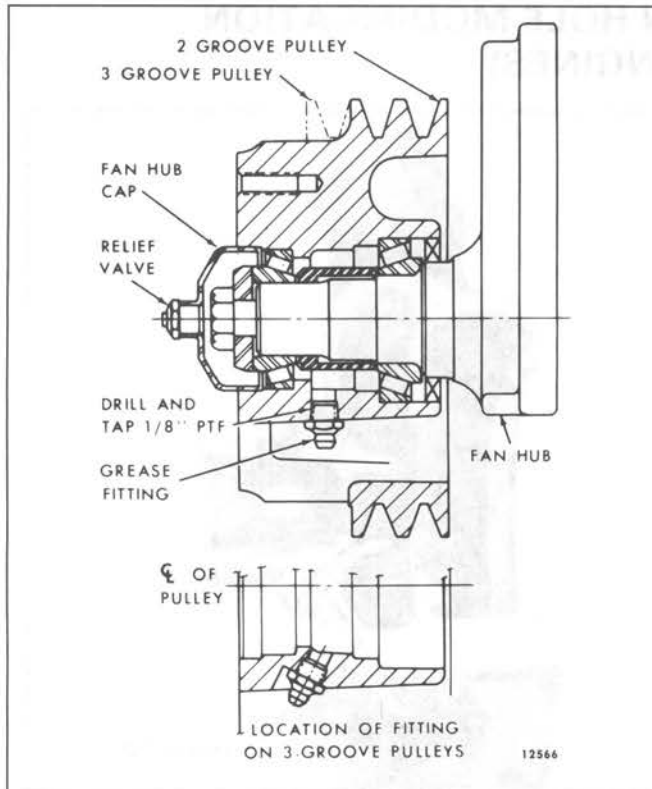

Fig. 1 – Location of Fan Hub Grease Fitting and Relief Valve
2. Drill and tap the fan hub, at the location shown in Fig. 1, to accept a 1/8"PTF x 11/16" threaded lubricator fitting. Clean the hub to remove any metal chips.
4. Install a *new* fan hub cap which is threaded for a relief valve (Fig. 1).